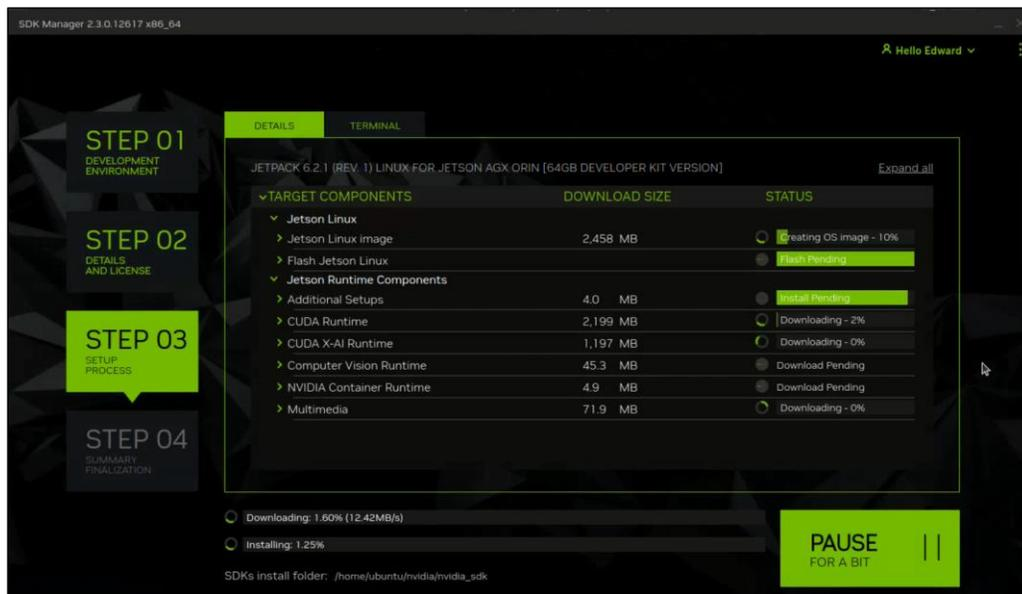

Figure 6.10. Download Operation and OS Image Creation
- In **STEP 03 – SETUP PROCESS**, as shown in Figure 6.10, wait for the download operation and OS image creation process to complete.